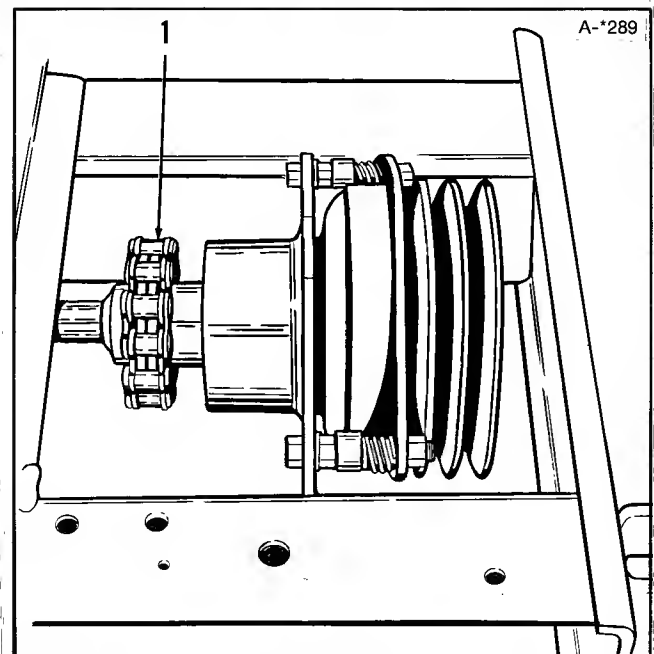

Figure 4.
- c. Place the remaining chain (1, figure 4) around both sprockets and secure with the master link. See figure 4.